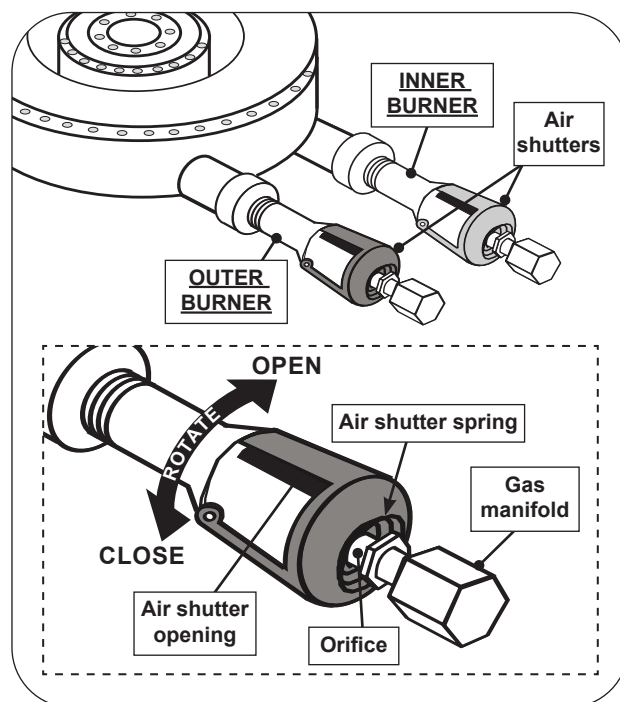

Fig. 56-1 Power burner air shutter adjustment detail
1. To adjust the air shutters, rotate the shutters to open or close them. See Fig. 56-1 for details.